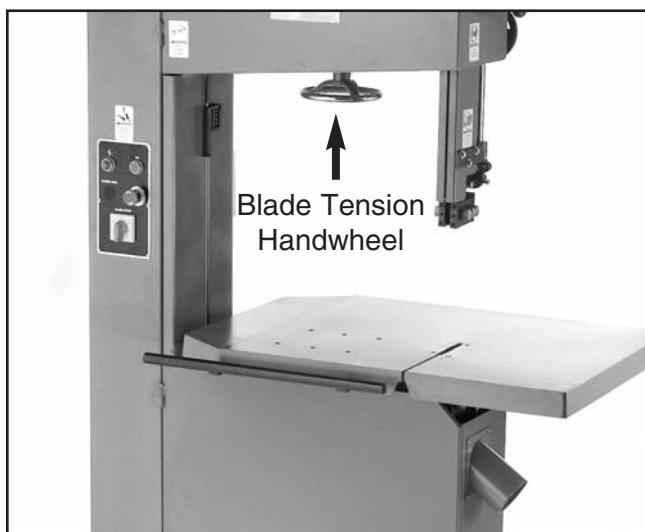

Figure 4. Table installed correctly.
3. Place the large hex bolt with washer through the table trunnion mount and the trunnion. Do not tighten the bolt completely at this time. The assembly should now look similar to **Figure 4**.